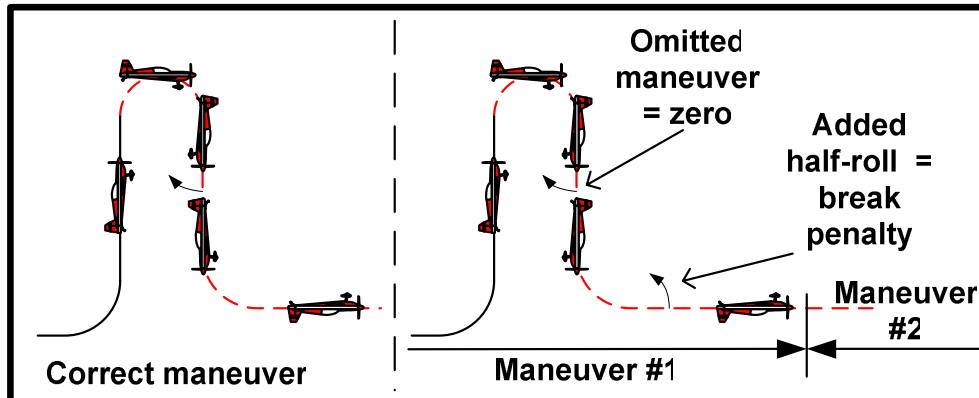

Fig. 9
- i. If the exit of a maneuver is done upright instead of inverted (the pilot forgot to perform a $\frac{1}{2}$ roll on the downline), and corrects this by doing $\frac{1}{2}$ roll immediately after the exit, on the horizontal line, the original maneuver will be zeroed because the $\frac{1}{2}$ roll was omitted on the downline, however the following maneuver will be scored because this $\frac{1}{2}$ roll was added only to correct the attitude of the aircraft for the beginning of that next maneuver. (Fig. 9)